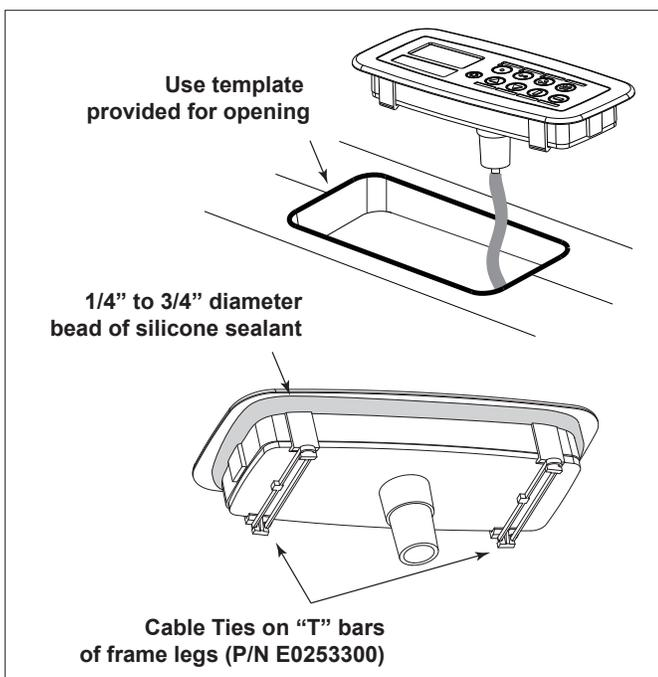

Figure 3. Flush Mount Installation on a Wood Deck
4. Apply a $\frac{1}{4}$ " to $\frac{3}{8}$ " diameter bead of silicone sealant all around the part at the corner shown below in Figure 3. Position the SpaLink RS within the opening and temporarily tape the SpaLink RS control to the correct position. Allow 24 hours for the sealant to cure, then remove the tape.